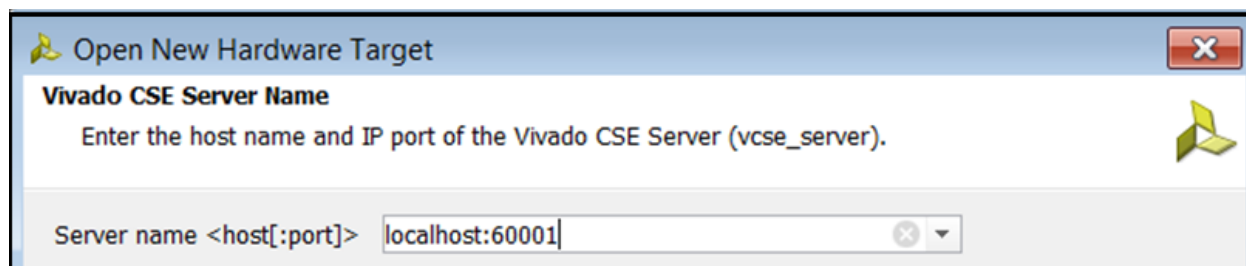

Figure 64: Open New Hardware Target
3. Type the default server name, **localhost:60001**, to connect to the `vcse_server` that you previously started from a command prompt. (Figure 64).